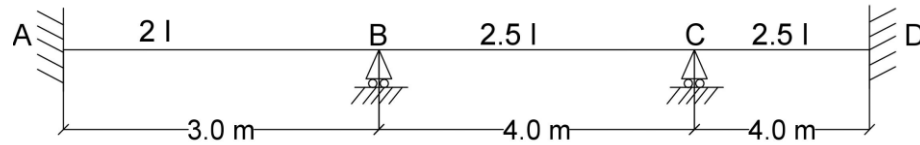

Figure 4.10
10. Analyze the continuous beam shown in figure 4.10, if the support B sinks by 10 mm. Take $EI=6000 \text{ KNm}^2$. Use displacement method.